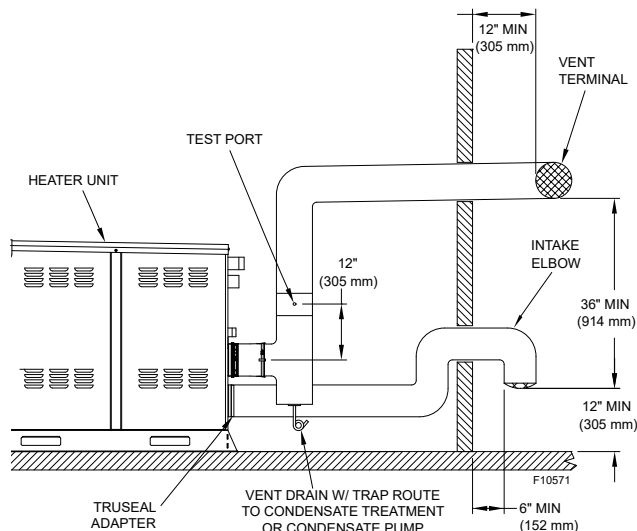

Figure 40. Direct Vent-Horizontal for PVC/CPVC
**CAUTION:** This venting system requires the installation of condensate drains in the vent piping as shown in Figure 39 or Figure 40. Failure to install these condensate drains in the venting system may cause a non-warrantable failure.
A condensate trap and drain are required at the bottom of the PVC/CPVC tee as shown in Figure 39 and Figure 40.
The vent cap **MUST** be mounted on the exterior of the building. The vent cap cannot be installed in a well or below grade. The vent cap must be installed at least 12" (305 mm) above ground level and above normal snow levels. The approved horizontal, PVC/CPVC vent cap that must be used is a Tee of the same size as vent pipe. See Figure 39 and Figure 40. The vent terminal must be located **NO CLOSER** than 12" (305 mm) off the wall.